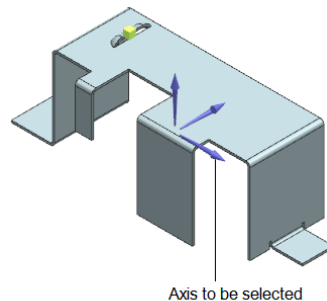

Figure 14-120 Axis to be selected from the triad
7. Select the axis of the triad, as shown in Figure 14-120 and then select the **Count and Span** option from the **Spacing** drop-down list.